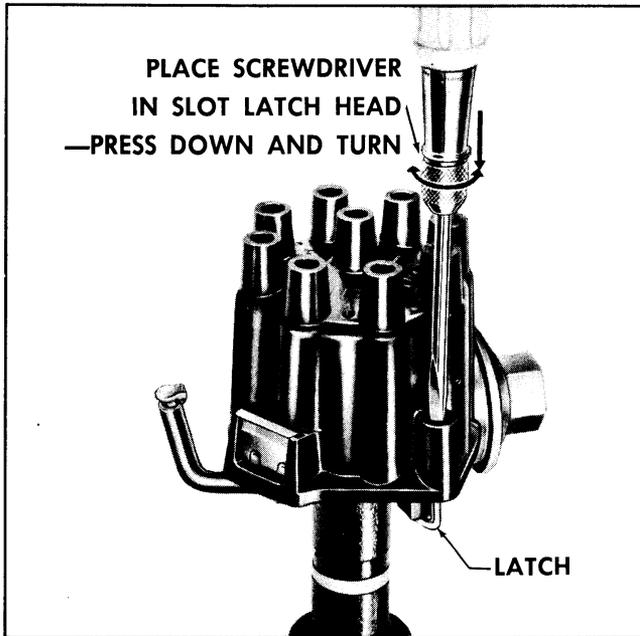

Fig. 13-38 Distributor Cap Removal
2. Remove distributor cap as shown in Fig. 13-38. Place screw driver in slot of latch, press down and turn 1/4 of a turn in either direction.